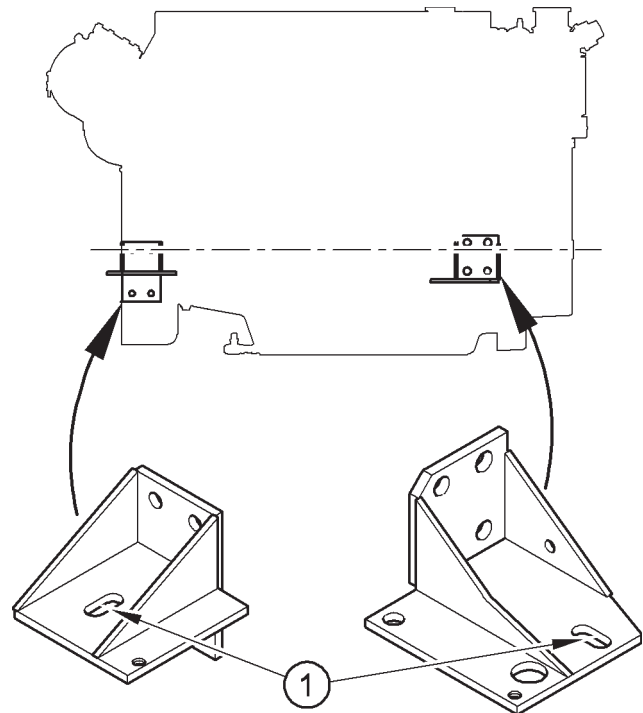

Figure 4
Figure 4 shows the holes (1) for the holding down bolts are slotted, 36 x 17 (1.7/16 x 21/32") to allow for some movement during the final stages of alignment. Where fine alignment is not necessary, for example when a flexibly jointed drive shaft is used, the bolts on all four corners of the engine should be positioned at the end of the slot - all either fully in or fully out. This will provide additional security in the fixing arrangements.